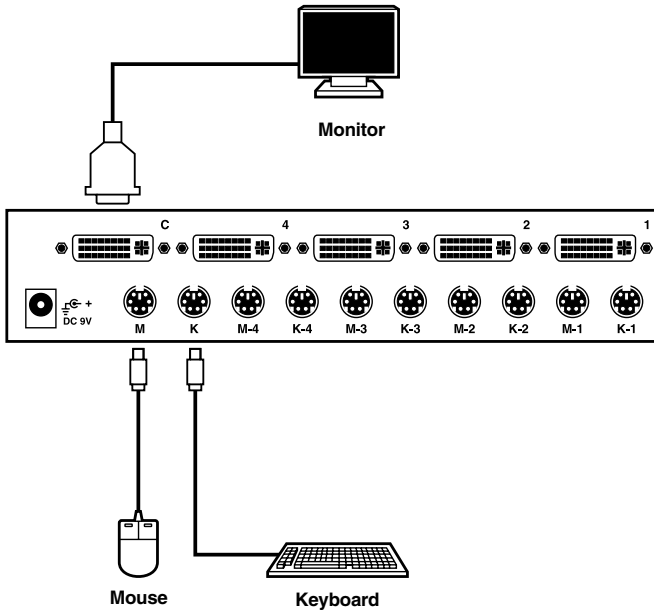

Figure 3-1. Console keyboard, mouse, and monitor connection.
2. Connect your PS/2 keyboard and PS/2 mouse directly to the 6-pin mini-DIN keyboard and mouse ports (labeled with keyboard and mouse symbols according to the KV99 standard) on the back of the ServSwitch as shown in Figure 3-1. Connect your DVI cable directly to the DVI port.